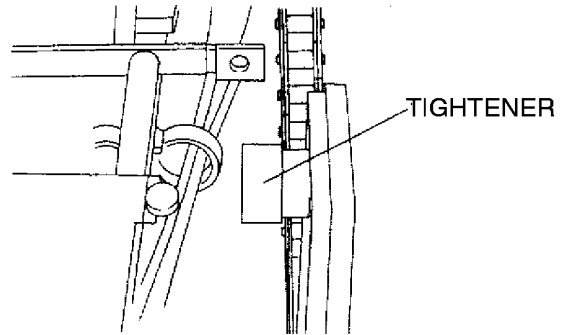

Figure 27. Chain Tightener
2. Check the chain tension and if loose, adjust the chain tension with the tightener (Figure 27). Chain tension should be adjusted every 50 hours of operation.